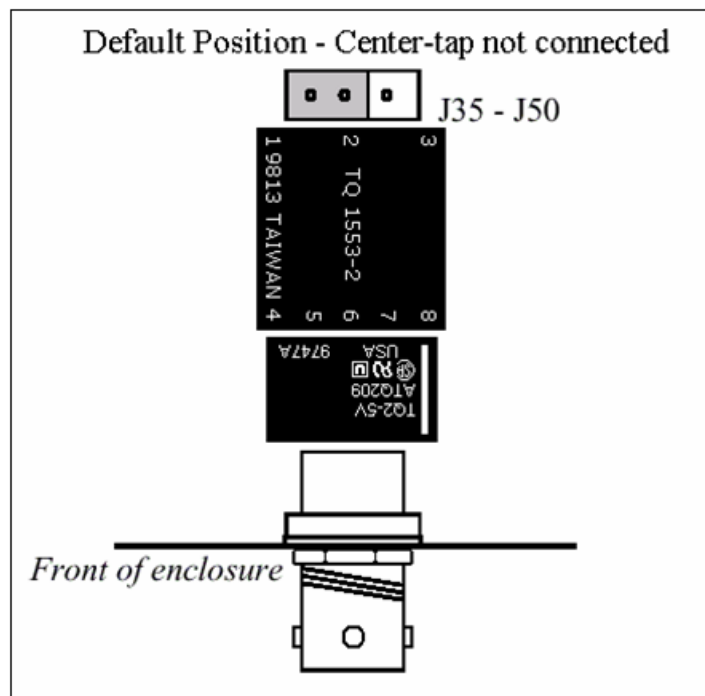

Figure 3-1 View of Headers J35 through J50
2. For each of the LRU connections, a coupling transformer is used as shown in Figure 3-1. J35 through J50 are the associated headers for LRUs 0 through F, respectively. In the default shipping position, the center-tap of this transformer is not connected. If the jumpers are moved from the left position to the right position (when viewed from the front of the MBX 1553 enclosure), the center-tap of the associated coupling transformers will be connected to the analog ground of the MBX 1553. While this will result in a common reference point for the center-tap if all of the jumpers are moved to the right position, it is also likely that some of the noise from the MBX 1553's switching power supply will be